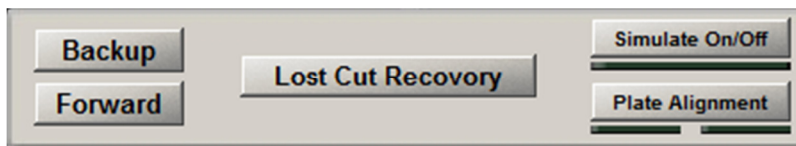

Figure 17 - Lost Cut Recovery, Simulate, and Plate Alignment Controls
The simulate function allows the operator to run the machine through a program without activating any of the outputs or turning on the cutter. This allows the operator to trouble shoot or test the program and get an idea of what it will look like without cutting anything. To switch states simply press the button. The green LED below the button will be on if the simulate function is on. See Figure 17.
1. To start Lost Cut Recovery press the **Lost Cut Recovery** button (See Figure 17).
2. Move the machine to the EXACT X and Y position where you want the machine to begin cutting using the **Forward** and **Backup** buttons. The **Forward** and **Backup** buttons will move the machine to the final commanded position of a G-Code line. See Figure 17.
3. Press the **Lost Cut Recovery** button. See Figure 17.
2. Move the machine to the EXACT X and Y position where you want the machine to begin marking using the **Forward** and **Backup** buttons. The **Forward** and **Backup** buttons will move the machine to the final commanded position of a G-Code line. See Figure 17.